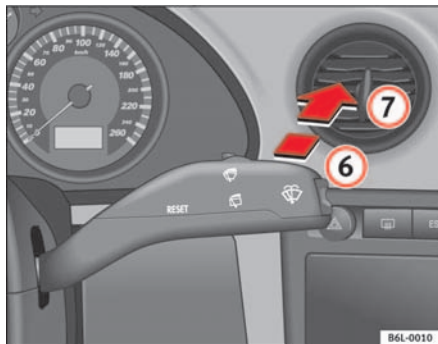

Fig. 66 Window wash and wipe lever: Rear window wiper
- Press the lever forwards to position 6 ⇒ fig. 66. The wiper will wipe the window approximately every 6 seconds.
- Press the lever fully forwards to position 7 ⇒ fig. 66. The rear wiper and washer operate at the same time. The windscreen wash system will function as long as you hold the lever in this position.